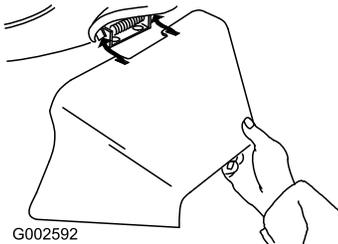

Figure 42
- Install the side discharge chute and close the door onto the chute (Figure 42).